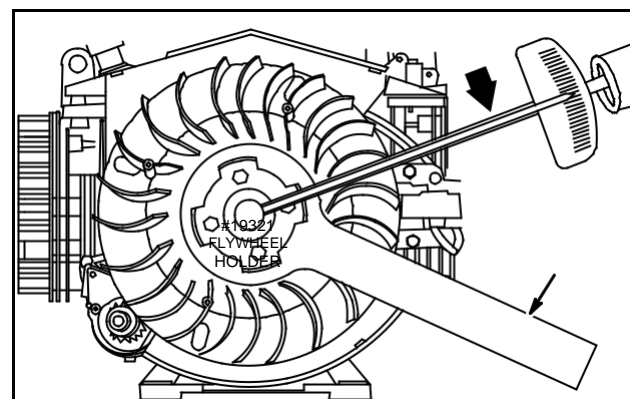

Fig. 29 – Torque Flywheel Nut – Twin II
3. Torque flywheel nut to 150 ft. lbs. (203 Nm), Fig. 29.